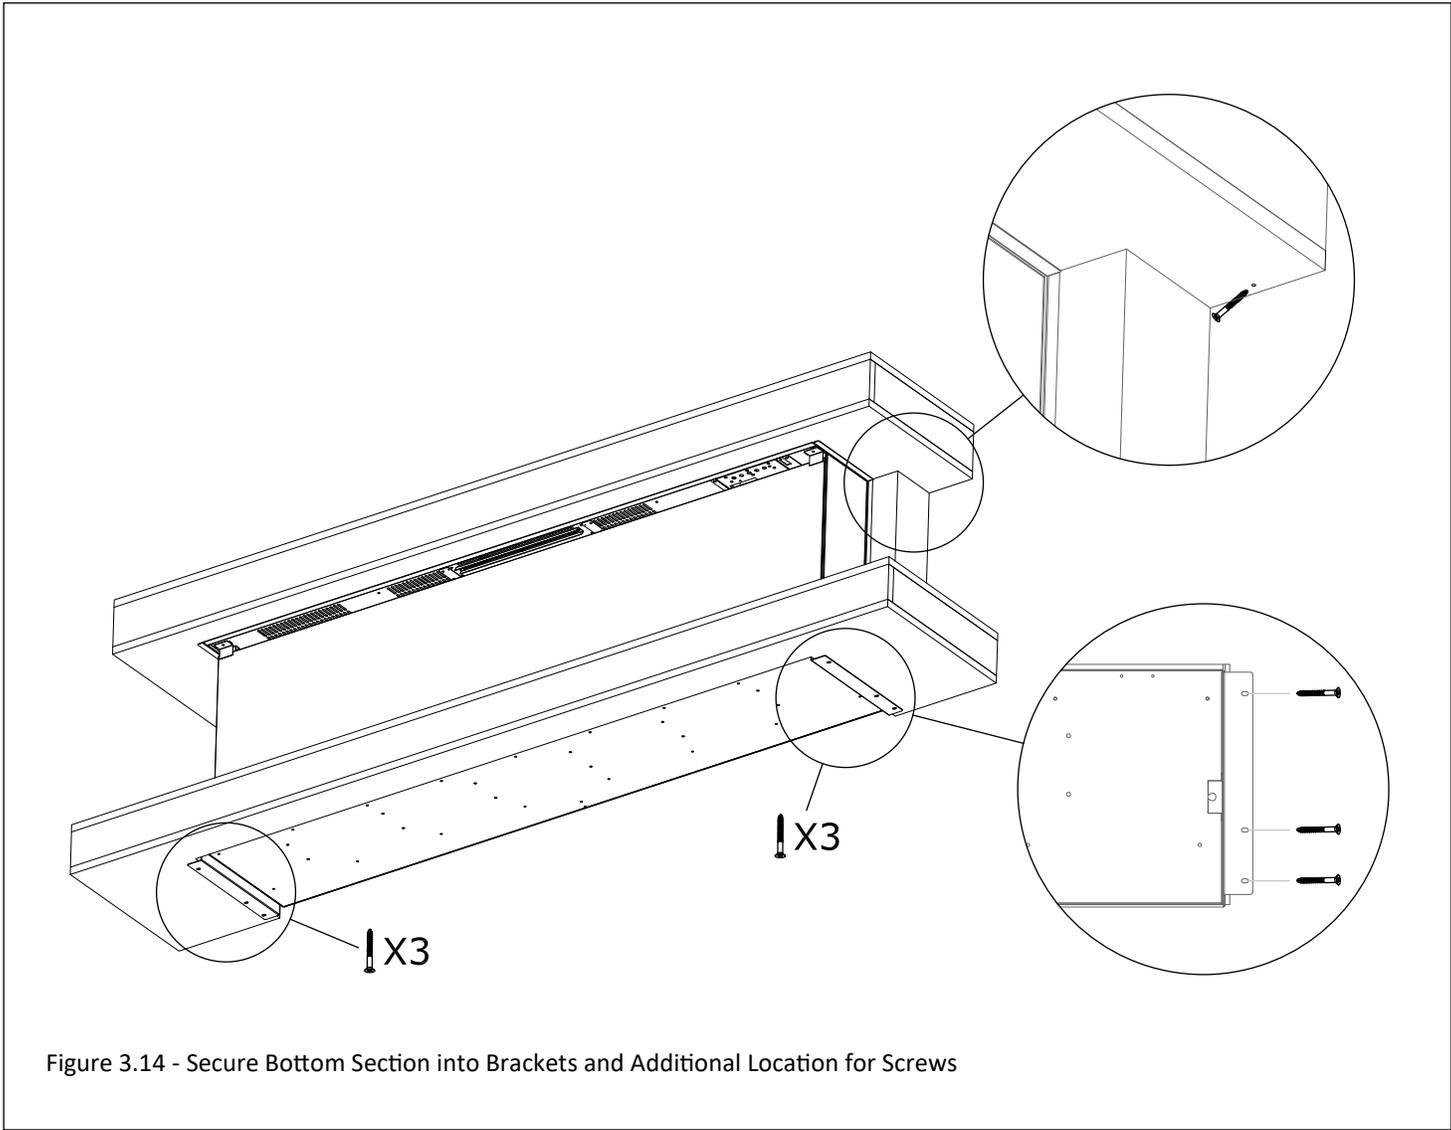

Figure 3.14 - Secure Bottom Section into Brackets and Additional Location for Screws
7. Secure the bottom section into the mantel legs. Go to the bottom side of the fireplace and install the screws through the holes in the brackets on the bottom side of the floating mantel assembly. There are (3) holes on the bracket per side. Make sure you are pushing down on the top of the Floating Mantel Assembly as the screws you are installing go through the bottom section of the mantel assembly into the side pieces of the floating mantel assembly (part #3 and #4). This secures the bottom and top sections into one secure assembly. See Figure 3.14.
Note: After completing step 7 you may find it desirable to take additional screws (not supplied) and toenail the screws into the bottom side of the top section (part #2) into the wall so the top of the Floating Mantel Assembly is secured tight against the wall. Predrill a hole into this location first before installing the screws. See Figure 3.14.